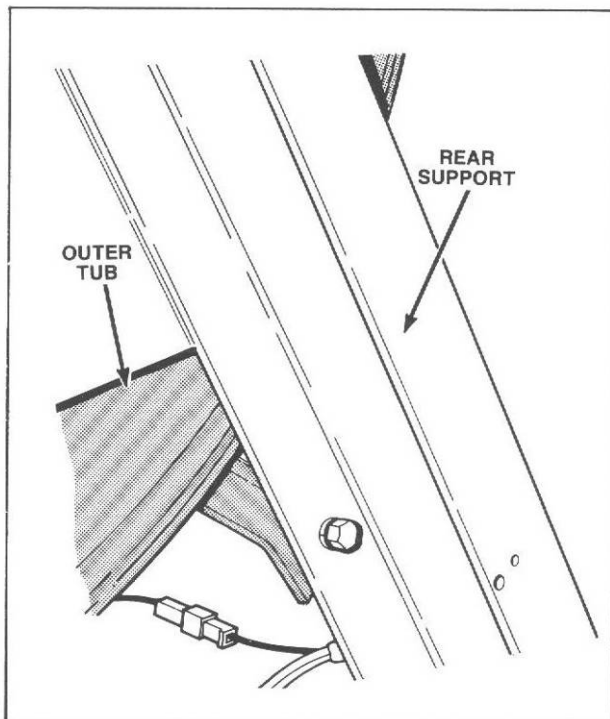

Figure 35
- m. Remove two screws, nuts, washers, and lockwashers holding outer tub to rear support, *Figure 35*.